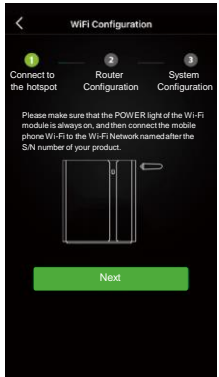

Figure 4.3 Hardware Connection
**Step 2** After that please check whether your mobile phone has connected to the system hotspot, as shown in Figure 4.3.